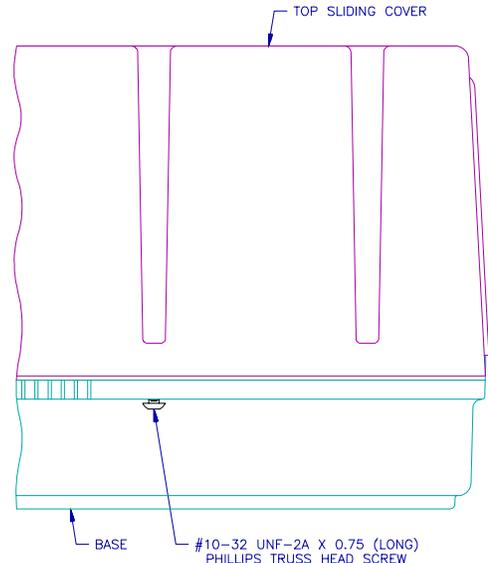

Figure 1
4. Remove the two phillips screws securing the top sliding cover and remove cover (Figure 1).